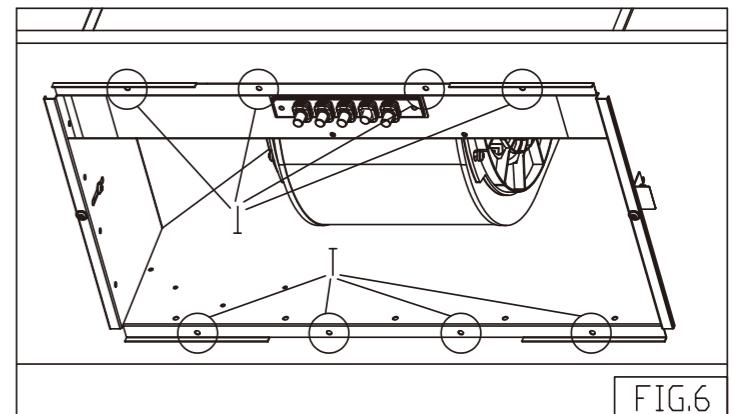

FIG.6
- E. Take the screws M5x20L (8 pcs) out , screw in at the holes on the bottom and fasten with wood base. (Fig. 6)